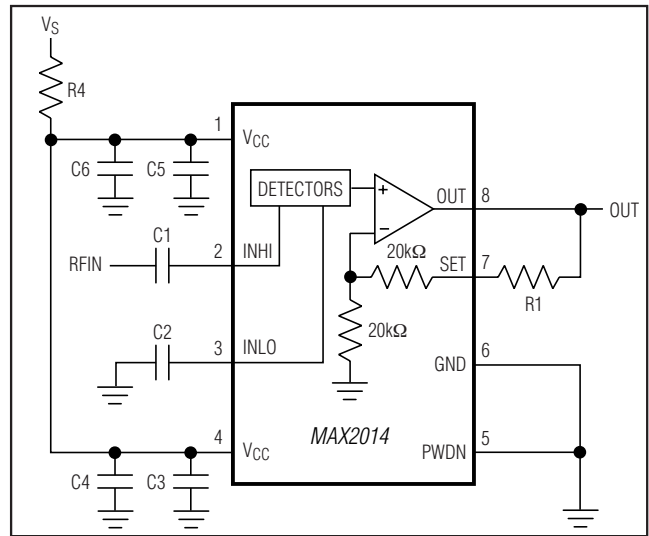

Figure 1. Detector-Mode (RSSI) Typical Application Circuit
(Typical Application Circuit (Figure 1),  $V_S = +3.3V$ ,  $f_{RF} = 50MHz$  to  $1000MHz$ ,  $R_1 = 0\Omega$ ,  $R_4 = 0\Omega$ ,  $R_L = 10k\Omega$ ,  $T_A = -40^\circ C$  to  $+85^\circ C$ , unless otherwise noted. Typical values are at  $T_A = +25^\circ C$ , unless otherwise noted.) (Note 2)
(Typical Application Circuit (Figure 1),  $V_S = V_{CC} = 3.3V$ ,  $P_{IN} = -10dBm$ ,  $f_{IN} = 100MHz$ ,  $R_1 = 0\Omega$ ,  $R_4 = 0\Omega$ ,  $R_L = 10k\Omega$ ,  $V_{PWRN} = 0V$ ,  $T_A = +25^\circ C$ , unless otherwise noted.)
(Typical Application Circuit (Figure 1),  $V_S = V_{CC} = 3.3V$ ,  $P_{IN} = -10dBm$ ,  $f_{IN} = 100MHz$ ,  $R_1 = 0\Omega$ ,  $R_4 = 0\Omega$ ,  $R_L = 10k\Omega$ ,  $V_{PWDN} = 0V$ ,  $T_A = +25^\circ C$ , unless otherwise noted.)
(Typical Application Circuit (Figure 1),  $V_S = V_{CC} = 3.3V$ ,  $P_{IN} = -10dBm$ ,  $f_{IN} = 100MHz$ ,  $R_1 = 0\Omega$ ,  $R_4 = 0\Omega$ ,  $R_L = 10k\Omega$ ,  $V_{P\_WDN} = 0V$ ,  $T_A = +25^\circ C$ , unless otherwise noted.)
The MAX2014 differential RF input (INHI, INLO) allows for broadband signals between 50MHz and 1000MHz. For single-ended signals, AC-couple INLO to ground. The RF inputs are internally biased and need to be AC-coupled using 680pF capacitors as shown in Figures 1 and 2. An internal 50Ω resistor between INHI and INLO provides a good 50MHz to 1000MHz match.
For power-supply voltages (VS) between 2.7V and 3.6V, set R4 = 0Ω (see the typical application circuits, Figures 1 and 2).
In detector mode, the MAX2014 acts like an RSSI, which provides an output voltage proportional to the input power. This is accomplished by providing a feedback path from OUT to SET (R1 = 0Ω; see Figure 1).